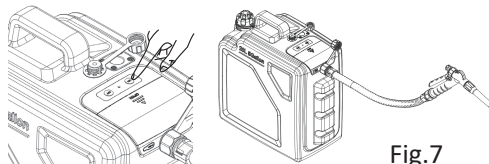

Fig.7
3. Push the button ON, and start the fueling as shown in Fig.7